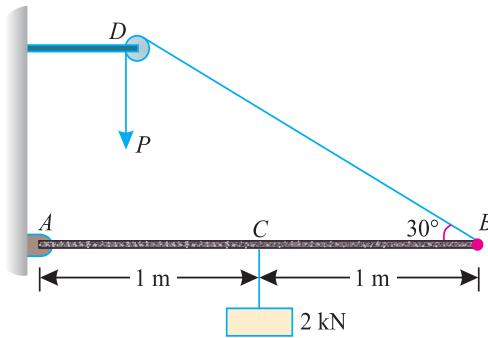

Fig. 16.20.
**Example 16.10.** A beam AB of 2 m length is held in equilibrium by the application of a force  $P$  as shown in Fig. 16.20.